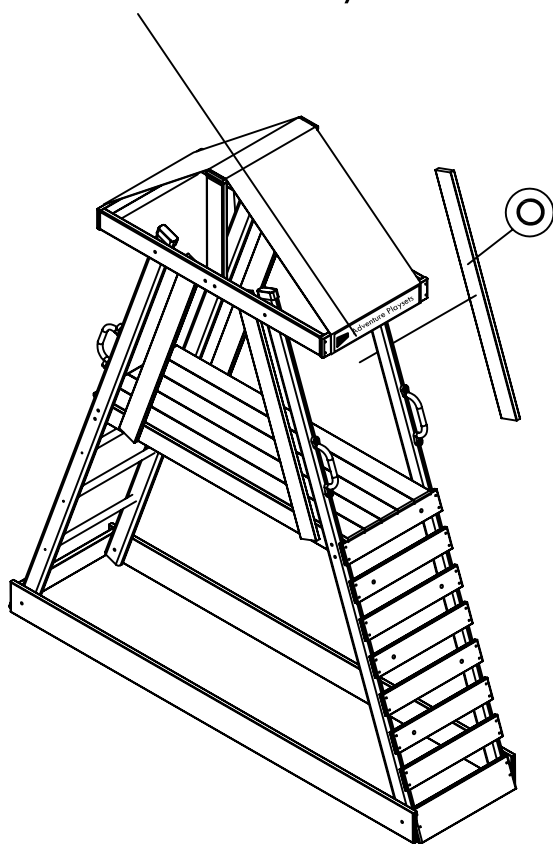

Fig. 14
(1) Green Roof Tarp
Step 1: Attach one end of each Wall Slats 'O' to the inside of the Monkey Bar Cross Braces 'F' with (2) 1 1/4" deck screws and attach the other end to the outside of Angled Floor Supports 'M' with (2) 1 1/4" deck screws each. (the Wall Slat should be spaced 3 1/4" away from upright) See Fig 14.